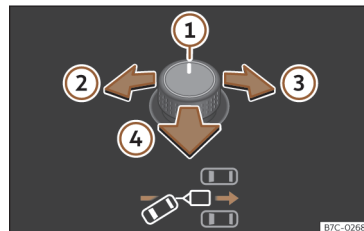
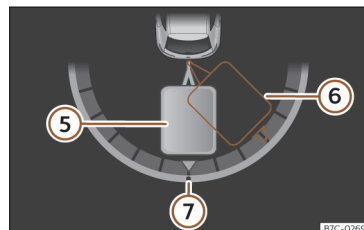

Fig. 163 Outside rearview mirror rotary control: adjust the trailer angle.
Fig. 164 Instrument cluster display: engage reverse.
Key to the >>> **Fig. 163**, >>> **Fig. 164**:
• Tilt the rotary control until the desired direction is reached >>> **Fig. 163**. A representation of the tow vehicle and trailer set is shown on the instrument cluster screen for guidance purposes >>> **Fig. 164**.